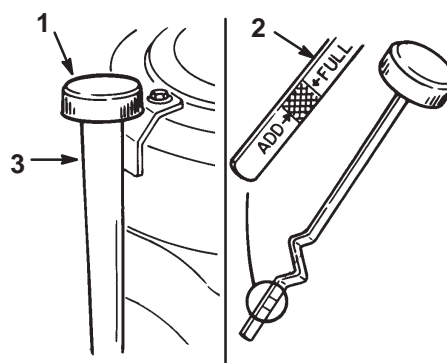

Figure 24
2. Clean around the oil dipstick (Fig. 24) so dirt cannot fall into the filler hole and damage the engine.
3. Unscrew the oil dipstick and wipe the metal end clean (Fig. 24).
4. Thread the oil dipstick fully onto the filler tube (Fig. 24). Pull the dipstick out and look at the metal end. If oil level is low, slowly pour only enough oil into the filler tube to raise the level to the "FULL" mark.
5. Slowly pour approximately 80% of the specified oil, page 24, into the filler tube (Fig. 24). Now check the oil level; refer to Checking Oil Level, page 24. Slowly add additional oil to bring to "FULL" mark on dipstick.